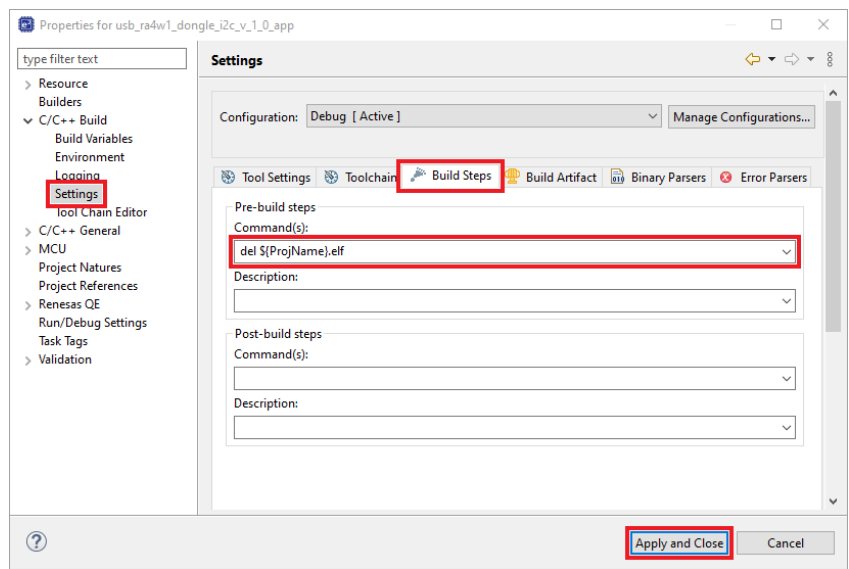

Figure 26. Adding a Pre-Build Command
16. Select **C/C++ Build > Settings** and then select the **Build Steps** tab (Figure 26). In the **Command(s)**: field enter the following pre-build command: `del ${ProjName}.elf` to always delete the *.elf file. Click on the **Apply and Close** button to save the change of the properties and close the window.